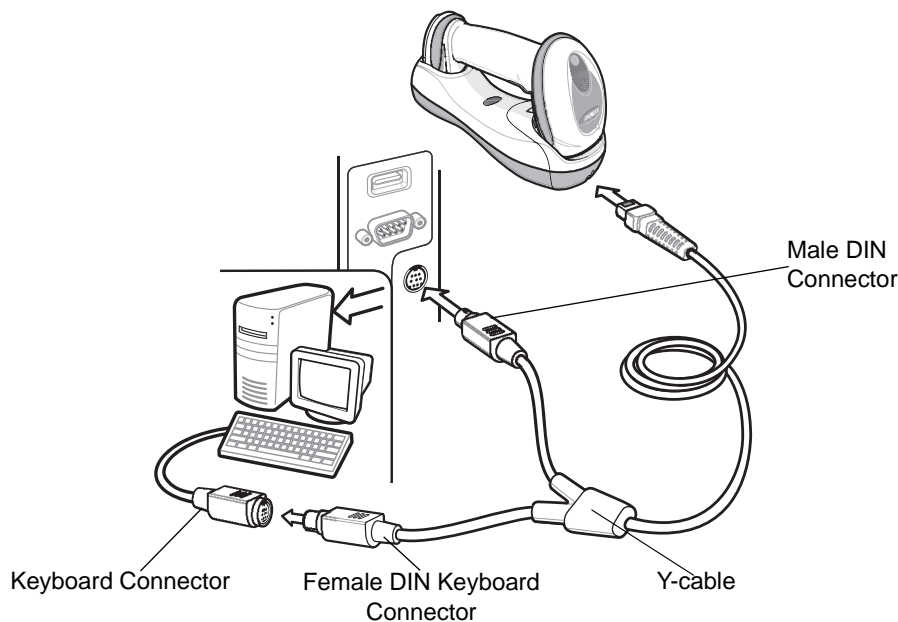

Figure 8-1 Keyboard Wedge Connection with Y-cable
- ✓ **NOTE** Interface cables vary depending on configuration. The connectors illustrated in Figure 8-1 are examples only. The connectors may be different than those illustrated, but the steps to connect the cradle remain the same.